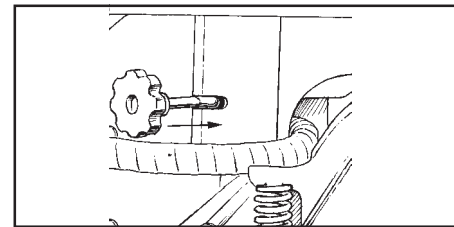

Figure 28
8. Rotate the two clamping studs (with knobs), located on the left side of the machine, towards the inner part of the brush head unit (see figure 28).